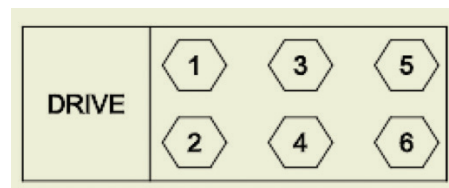

Figure 14
3. Torque bolts **(Item 42)** to 240 FT-LBS [325 N-M] using the numbered pattern above. **(See Figure 14)**